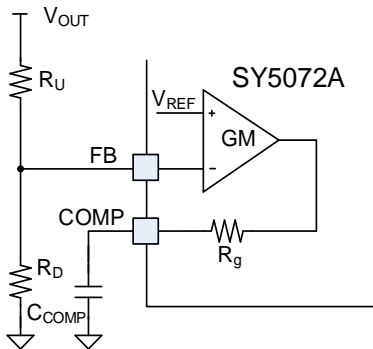

Figure 5. Output Voltage Feedback Circuit
After the AC supply or DC bus is powered on, the capacitor C_{VIN} (connected between the VIN and GND pins) is charged by the bus voltage through a startup resistor R_{ST} . The low startup current consumption ($1.9 \mu A$) minimizes standby power dissipation. When V_{VIN} rises above V_{VIN_ON} , the internal blocks activate, and V_{VIN} decreases due to the power consumption of the device until the external supply or the auxiliary winding of the boost inductor can support V_{VIN} . The SY5072A includes an under-voltage lockout (UVLO) feature that ensures operation until V_{VIN} falls below V_{VIN_OFF} . This hysteresis provides sufficient time for VIN to be supplied from the external source or the auxiliary winding. The startup sequence consists of two sections, as shown in Figure 5: t_{STC} , the C_{VIN} charging section, and t_{STO} , the output voltage buildup section. The total startup time, t_{ST} , comprises t_{STC} and t_{STO} . Typically, t_{STO} is much shorter than t_{STC} .
The SY5072A regulates the boost output voltage using a transconductance internal error amplifier (EA). The inverting terminal of the EA is connected to the feedback (FB) pin, while the non-inverting terminal is linked to an internal 1.25V voltage reference. The output of the EA is connected to the compensation (COMP) pin (see Figure 5). The resistance R_g is a parasitic resistance that aids in loop control, with a typical value of approximately 8 k Ω . Due to the operation of the transconductance error amplifier, the FB pin can also be utilized to detect both output overvoltage and undervoltage conditions.